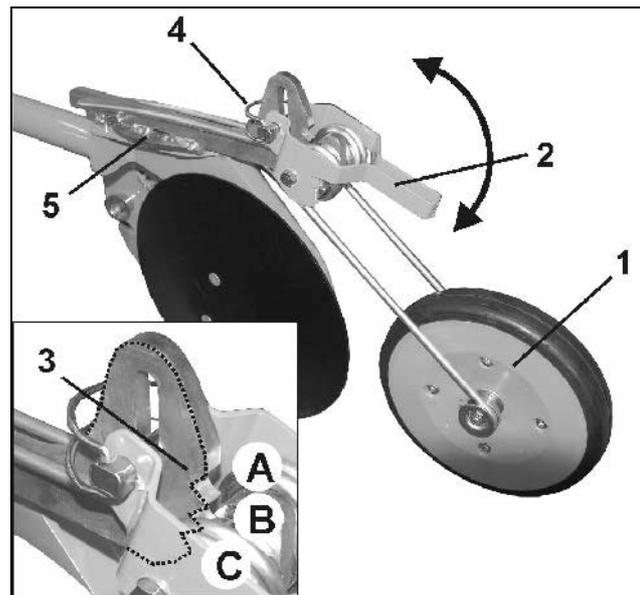

Fig. 16
3 Adjustment of the pressure of the seed press roller (Fig. 16/1) in three positions.
1. To release the locking lever (Fig. 16/2) swivel it upwards.
By tothing the seed press roller (Fig. 16/1) can be set in 3 positions.
1. Swivel the locking lever (Fig. 16/2) upwards to release it.
2. Remove the lynch pin (Fig. 16/4).